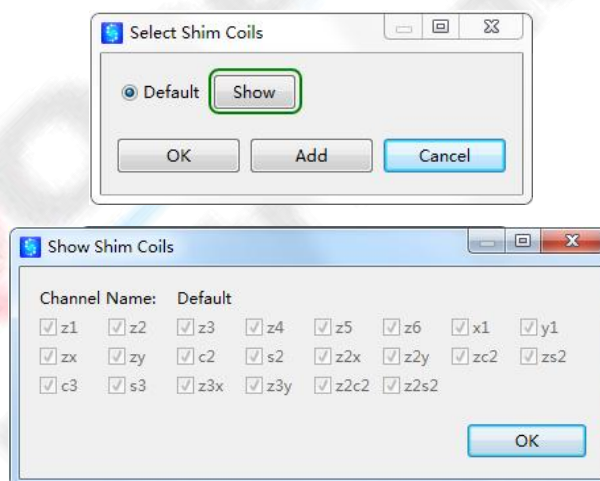
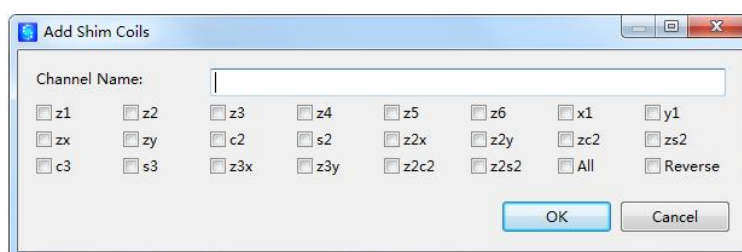

Figure 2.33 Show button function in the Edit dialog
Figure 2.34 Add button function in the Edit dialog
- (4) Select **Channels**, the shim coils coils used for 3D Smart Shim. The default is composed of all coils for current spectrometer. User can click **Edit** to open a edit window, then click **Show** button to check the default coils (Figure 2.33), or click **Add** button to define your own coil combinations and give a name in the **Channel Name** box (Figure 2.34).